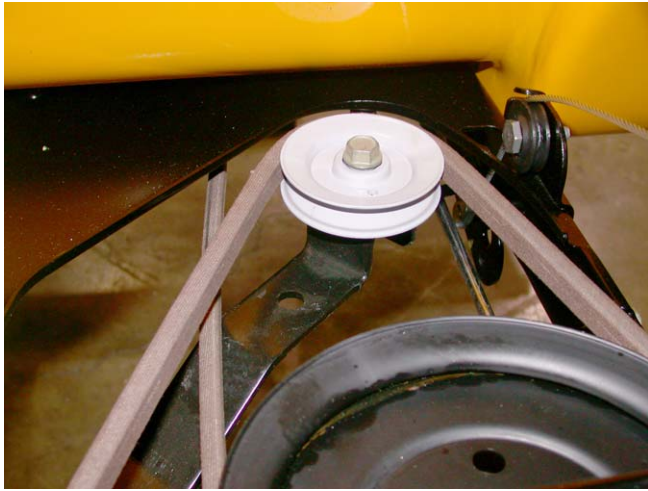

Figure 18.6
18.6. Inspect the upper drive belt: See Figure 18.6.